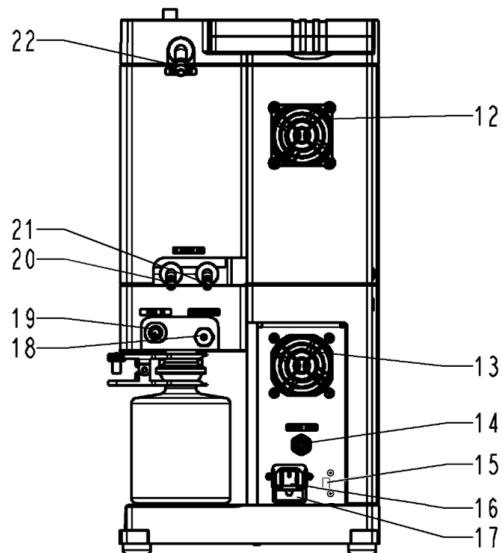

Fig. 2: Vacuum pump system SC 950
The vacuum pump system generates a vacuum that can be controlled either through the hand terminal (see Fig. 2/4, p. 13) or a PC.
Collection flask (Fig. 2/9) collects on the suction side of the pump particles and drops that were, contrary to the requirements of the pump, suctioned from the vacuum chamber. The collection flask is coated (implosion protection) and fastened to the vacuum pump system via a flask clip (7).
Gas ballast The gas ballast switch (Fig. 2/6) can be used to open and close the gas ballast valve on the vacuum pump system's pump (see Chapter 5.6).